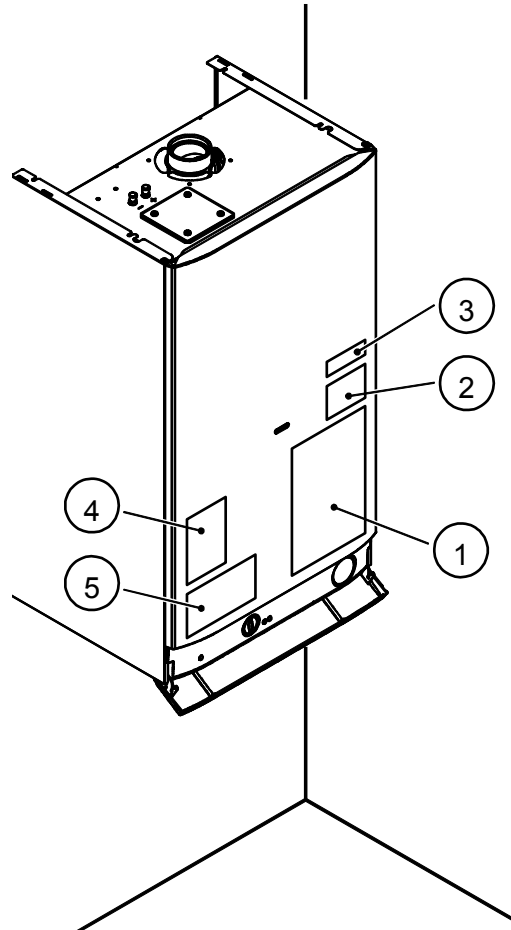

Figure 15.10
**Warning: The installation is not complete unless labels supplied are placed on the boiler as shown in Figure 15.10.**
All the labels supplied with the boiler are numbered for reference. According to Figure 15.10 place all the labels on the boiler. Use label numbered as 1 (already installed in the front panel) to begin the placement in the correct way.